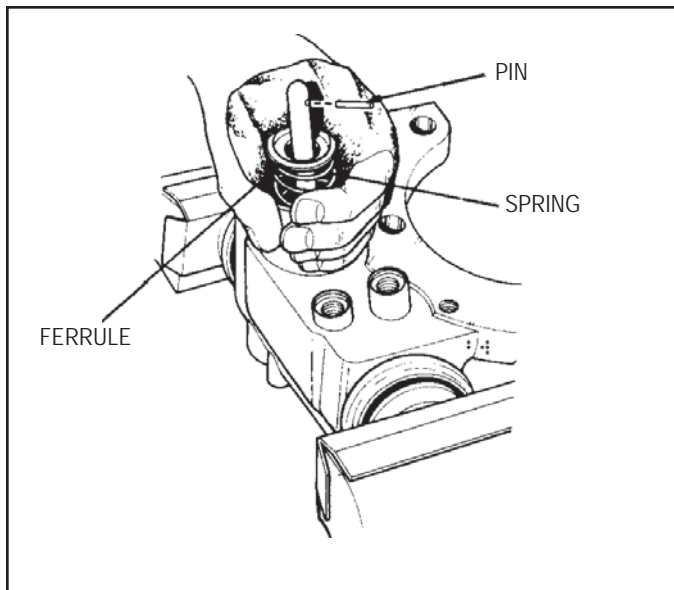

FIGURE 16 - REMOVAL OF PIN FROM WEDGE
2. Compress the wedge return spring and remove the pin, *Figure 16*. Slowly release the spring pressure and remove spring along with the ferrule.
the pressure side. Liberally grease the ramp face and insert the assembly into the bore of the housing until it engages the wedge cage and rollers, *Figure 16*. Install and tighten the stop pin to 16 ft. lbs. (23,3 N.m).
8. Turn the expander housing in the vise to enable the wedge return spring to be installed. Locate the spring ferrule on the spring and compress the spring over the wedge stem until the pin can be inserted, *Figure 16*. Release the spring carefully.